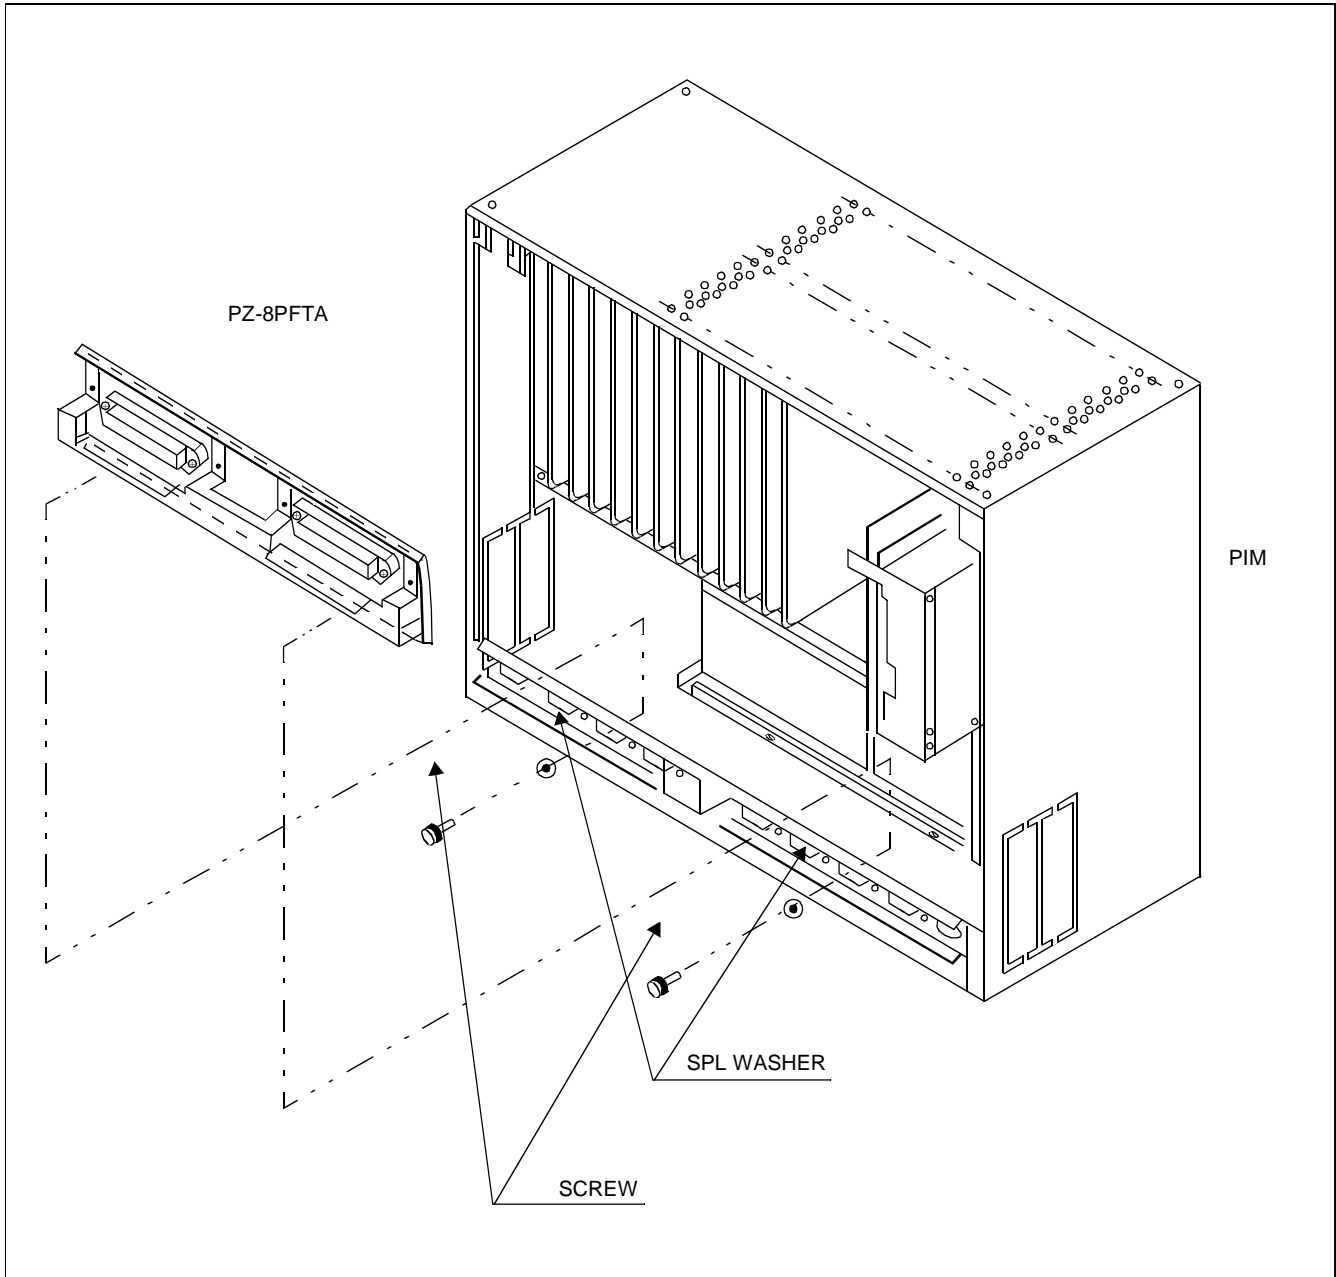

Figure 3-34 Mounting PZ-8PFTA Card to PIM
STEP 2: Hook the PZ-8PFTA card at the front bracket on the PIM, and secure them to each other using screws and SPL washers, as shown in Figure 3-34.